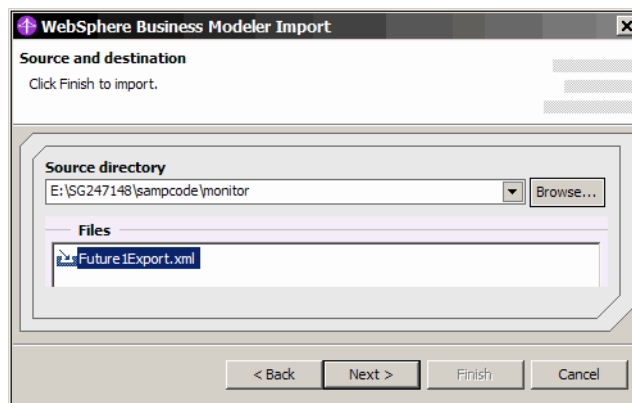

Figure 14-4 Modeler: Importing Monitor results (2)
- ▶ Select the exported file and click *Next* (Figure 14-4).